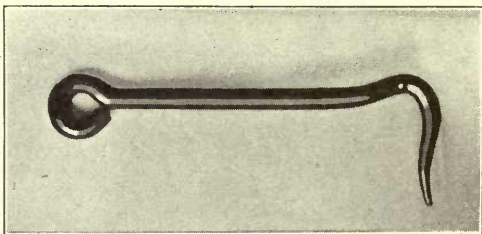

FIG. 16. GATE HOOK.
5. Bend the hook, first bending as in Fig. 17. Then bend over the horn of the anvil as for the eye. Bend the point out slightly as in Fig. 16, and blacken. The gate hook completed should look like the drawing, Plate 3, and Fig. 18.